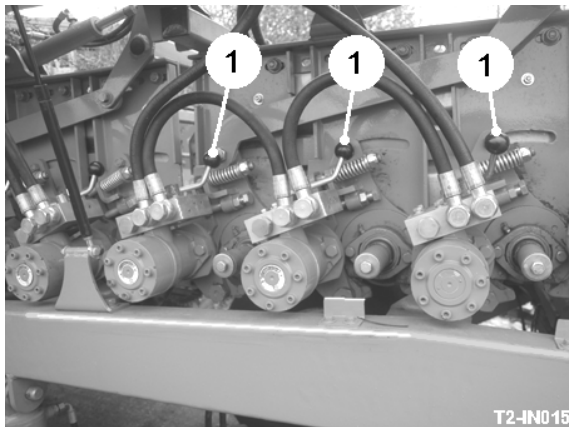

Fig 1
The scrolls shafts are driven hydraulically via a gearbox and drive chain. Each clod roller is directly driven by its own hydraulic motor fitted with a manual reversing valve (item 1, fig 1).